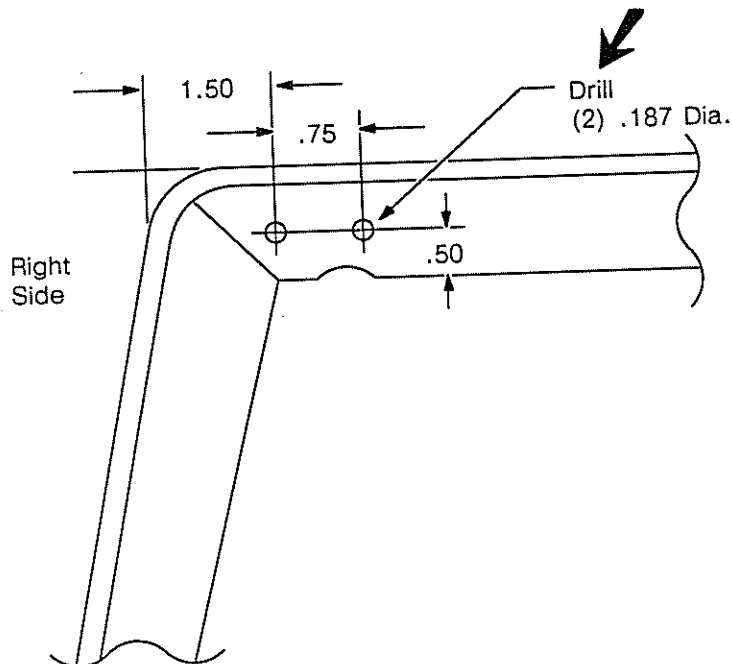

Fig. 1 - MODEL 186E LINTEL REWORK
1. For the 186E, drill (2) 3/16" dia. holes in the lintel as shown in Figs. 1 & 3.